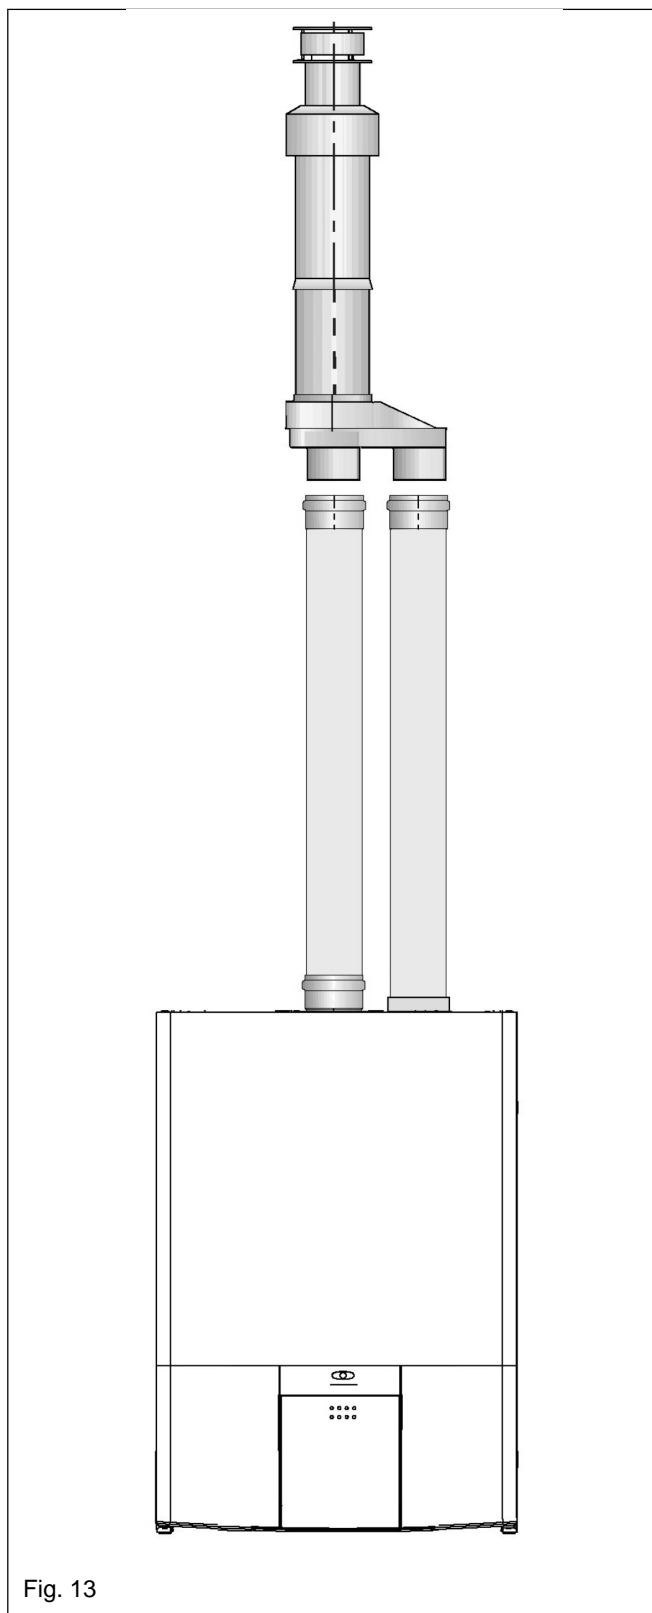

Fig. 13
4.5.3.3 VERTICAL TERMINATION (see fig. 13)